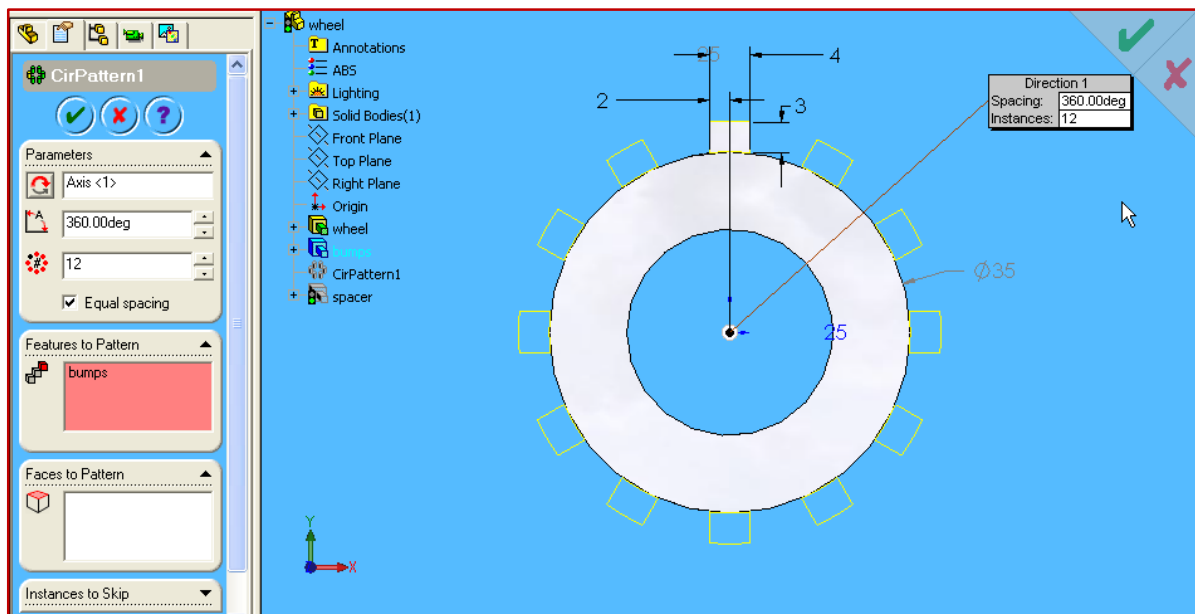

Figure 6.3 – Preview of the Circular Pattern of Bumps
- ✓ To create 12 equally spaced repetitions including the original bump, fill all the option boxes in the dialog box as shown in Figure 6.3. Notice that there will be 12 bumps equally distributed around the outside surface of the cylinder.